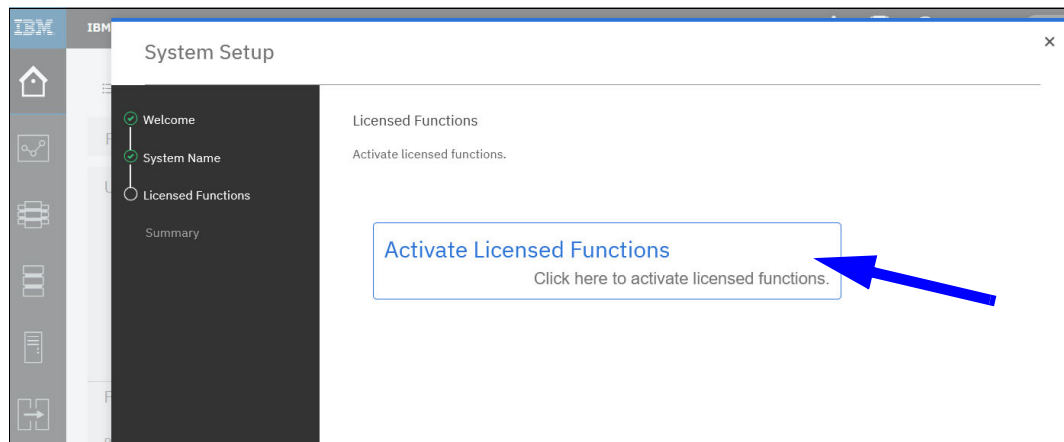

Figure 7-2 Wizard step: Activate Licensed Functions
4. After an option to give your system another nickname, then to begin the guided procedure to acquire and activate your feature activation keys, select and complete the **Activate Licensed Functions** routine, as shown in Figure 7-2.